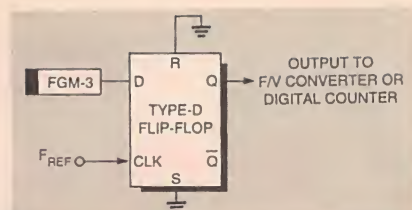

Fig. 3. To provide a more sensitive measuring capability, but over a smaller range, a type of "digital heterodyning" can be used.
**Digital "Heterodyning."** A different interface method is shown in Fig. 3. It results in a more sensitive measurement over a small range of the sensor's total capability. In other words, that circuit makes it possible to measure small fluctuations in a relatively large magnetic field.